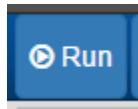
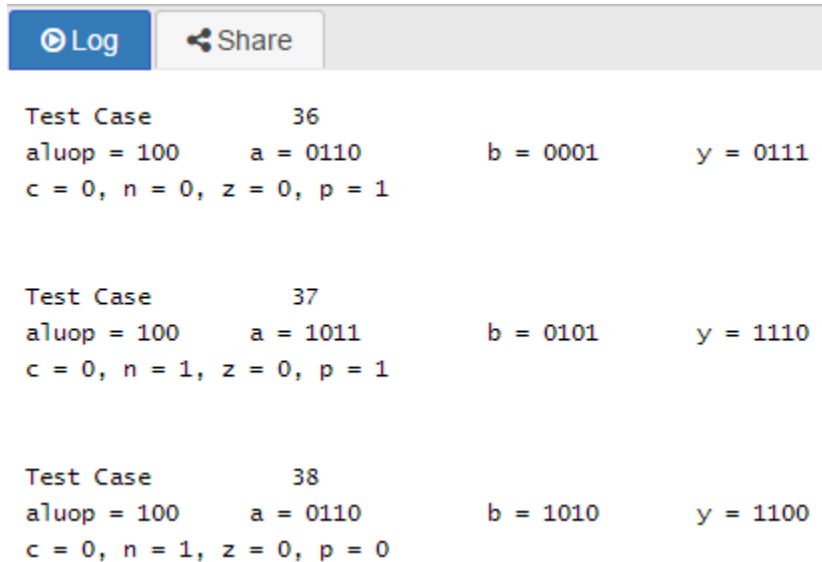

Figure 1.8 On the top of the window you will find “Run” button
Figure 1.9 Console output showing some of the test cases.
- Click the Run button (Figure 1.8) and the result of each test case will be written to the console (Figure 1.9) if there are no project errors. Each window pane can be resized as needed to see all relevant information!